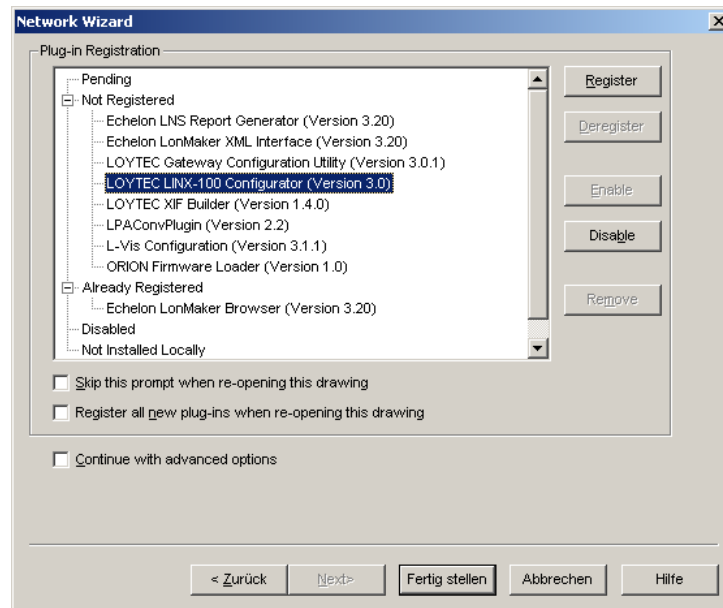

Figure 52: Select the Plug-in to be registered.
2. Click **Next** until the plug-in registration tab appears in the Network Wizard. Select the **LOYTEC LINX-100 Configurator (Version X.Y)** from the list of **Not Registered** (see Figure 52).